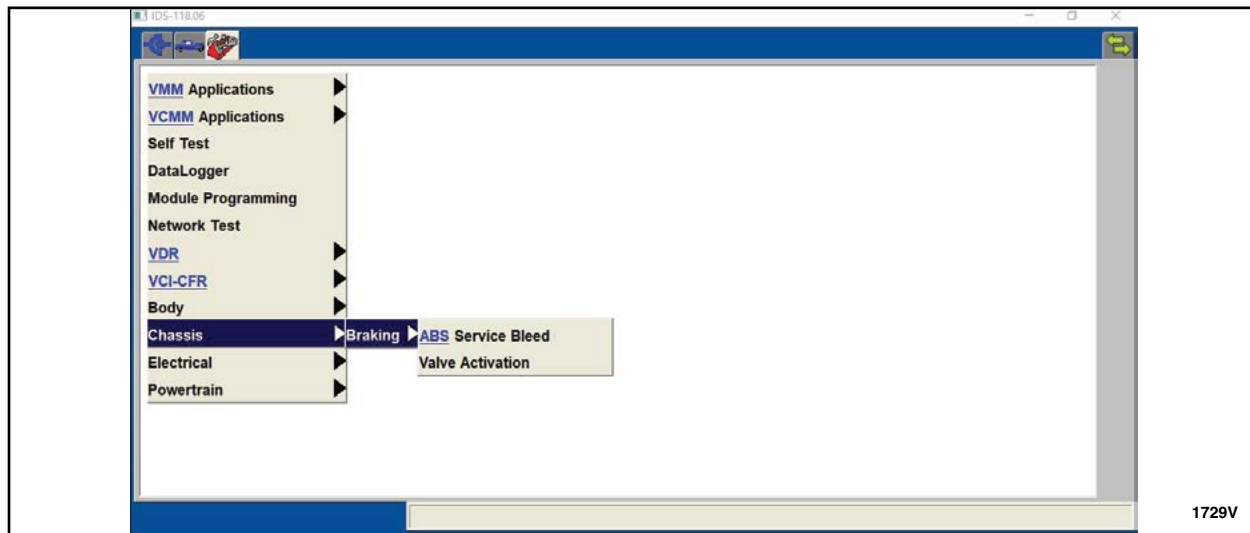

FIGURE 13
6. Select the "Tool Box" tab then "Chassis", "Braking" then "ABS Service Bleed". See Figure 13.